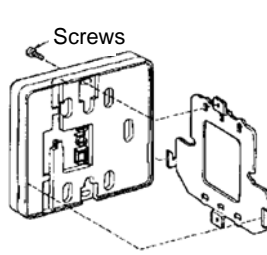

Fig. 4
- Fasten the controller to the wall as shown in Fig. 4.